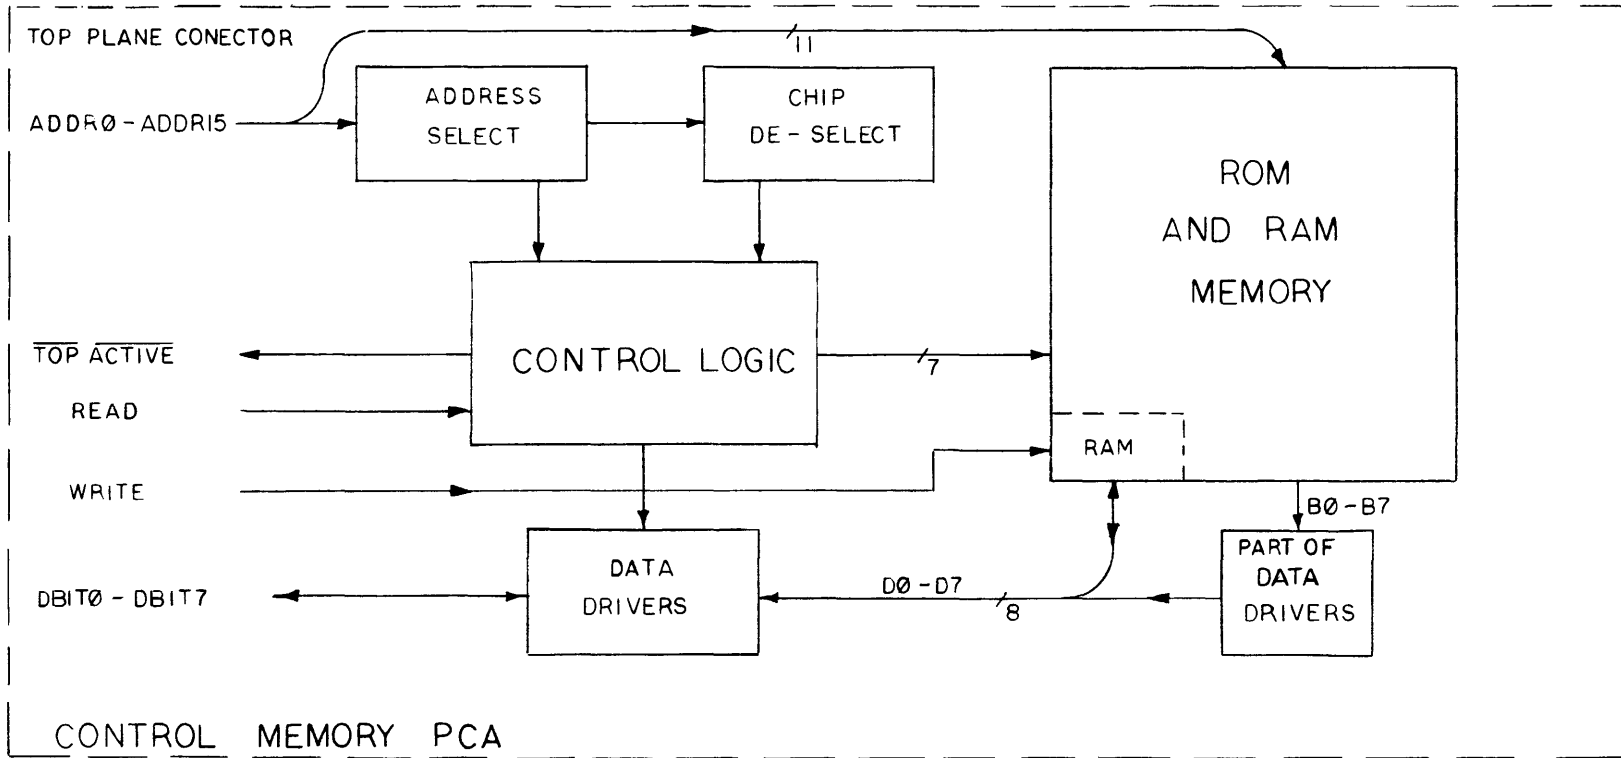
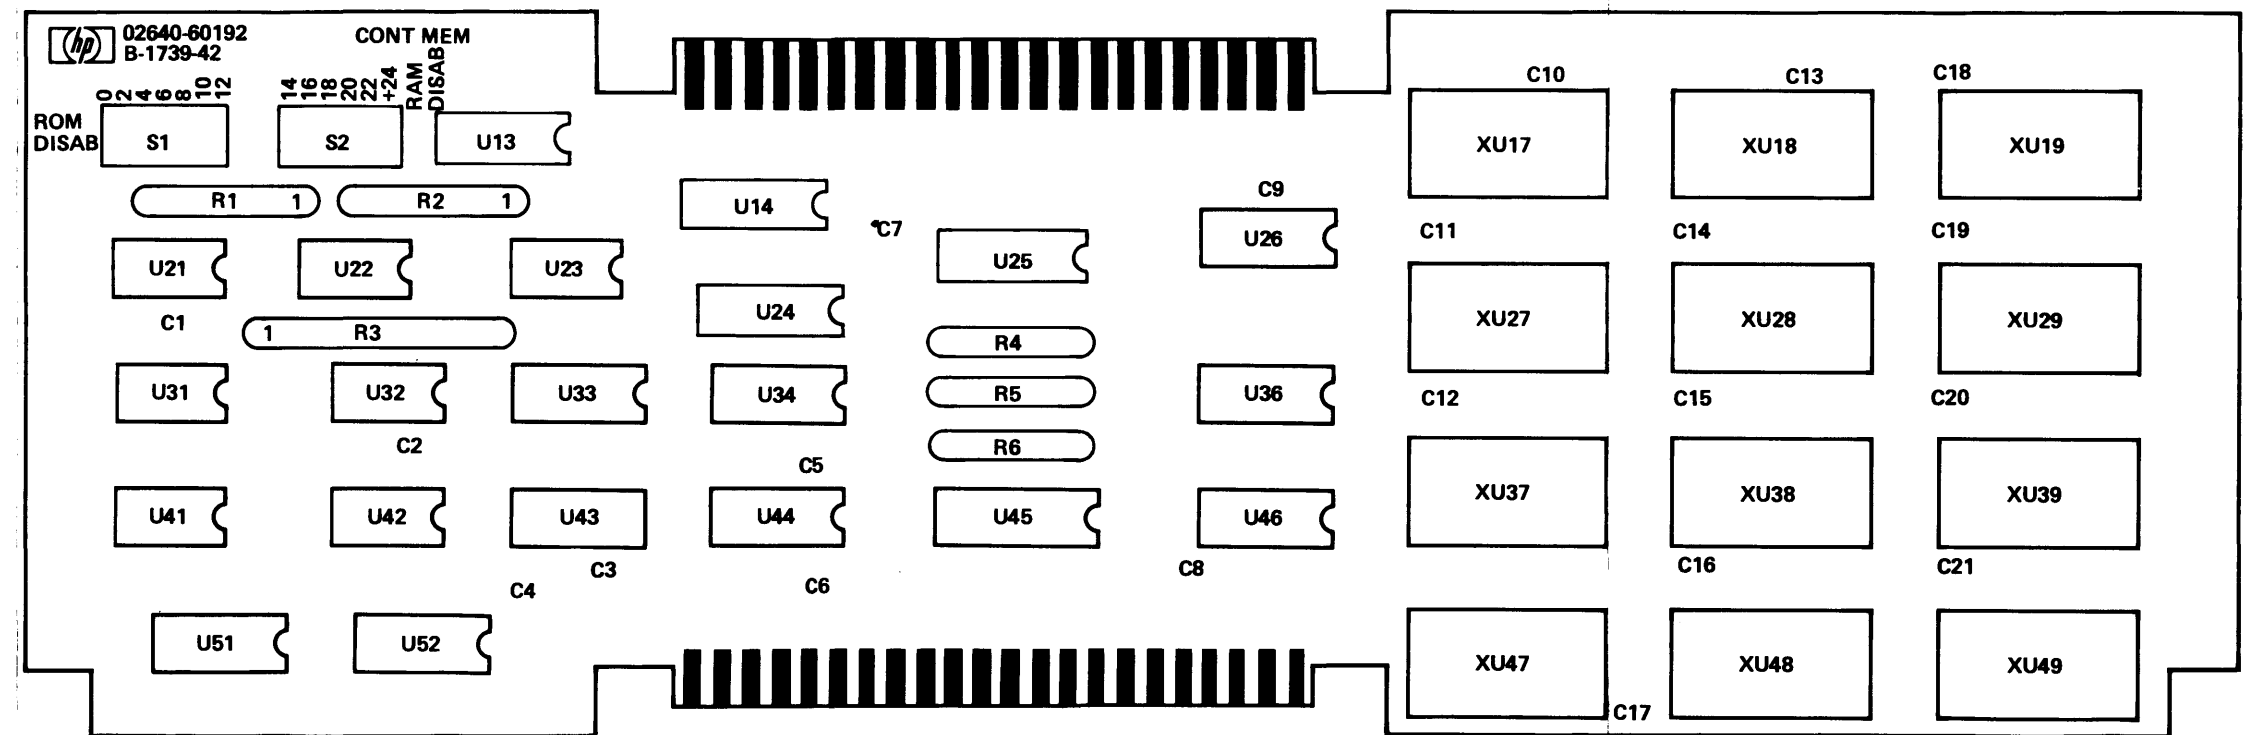

Figure 1
Figure 4
- 3.0 FUNCTIONAL DESCRIPTION. Refer to the block diagram (figure 1), schematic diagram (figure 2), timing diagram (figure 3), component location diagram (figure 4), and parts list (02640-60192) located in the appendix.